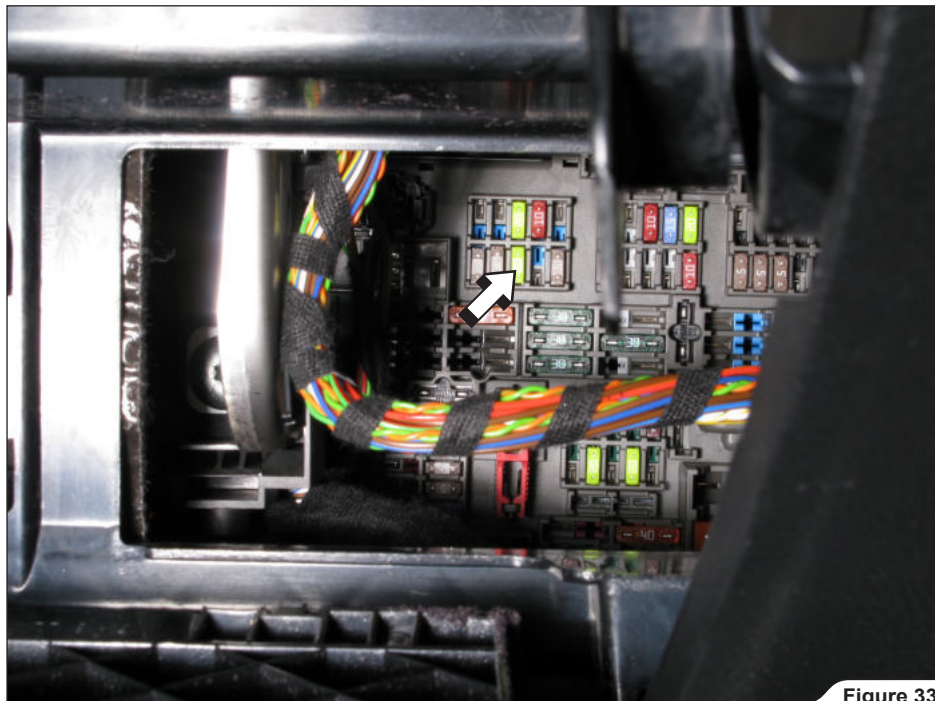

Figure 33
23. **For fuse box powered Wireless only:** remove the marked 20A fuse from number 8 fuse spot in the power distribution box (Figure 33, 34).